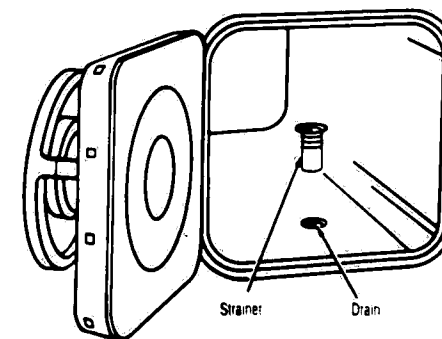

FIGURE 4-1 - Chamber Drain Strainer
- c. Remove chamber drain strainer (Figure 4-1). Clean out lint and sediment; reverse flush under running water.
- b. Remove chamber drain strainer (Figure 4-1). Turn MANUAL control to FAST EXHAUST.